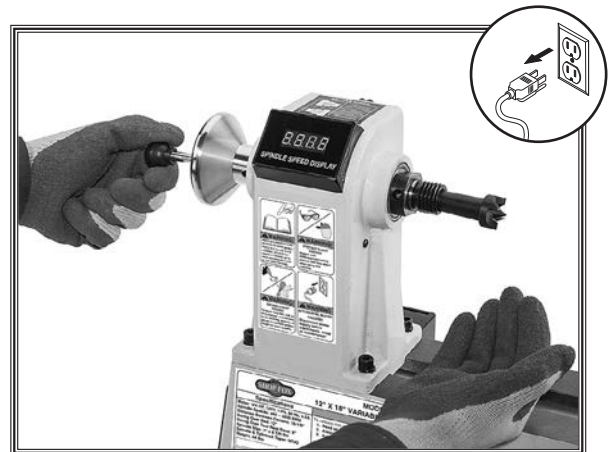

Figure 16. Example of removing headstock center with knockout rod.
3. Insert knockout rod through outboard end of spindle and firmly tap back of center, catching it as it falls, as shown in **Figure 16**.